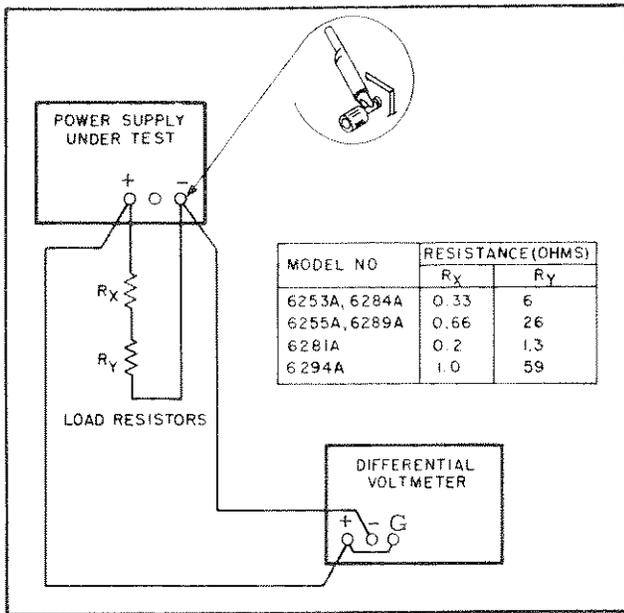

Figure 5-5. Load Regulation, Constant Voltage Test Setup
a. Connect test setup as shown in Figure 5-5.
- c. Connect test setup shown in Figure 5-5.